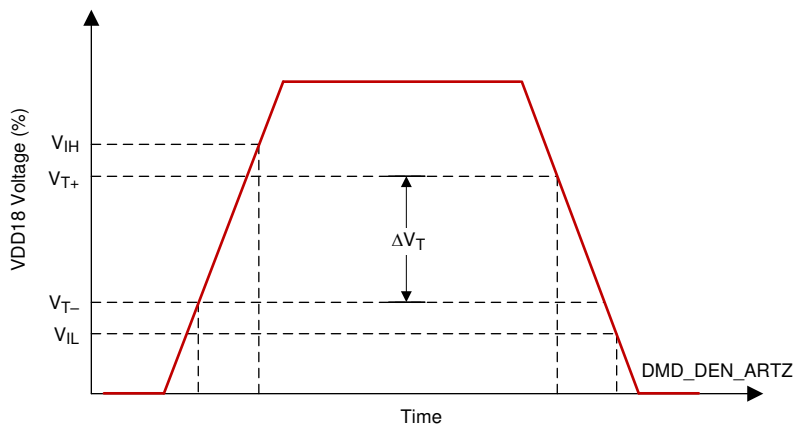

Figure 6-9. LVC MOS Input Hysteresis
- (1) See Figure 6-9 and Figure 6-10 LVCMOS Rise, Fall Time SLeW Rate Figures. Specification is for DMD_DEN_ARSTZ pin (LVCMOS).